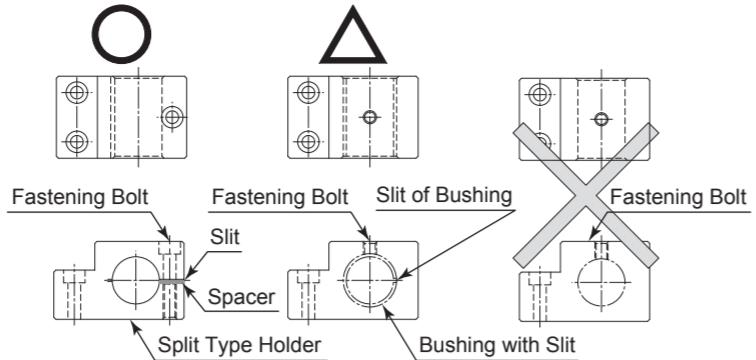

Fig. 13 Fig. 14 Fig. 15
② When installing a Air Motor Spindle to the holder, recommended installation method is shown Fig 13. Refer to "③ How to fabricate the Split Type Holder". If this is not possible, install as shown in Fig. 14.